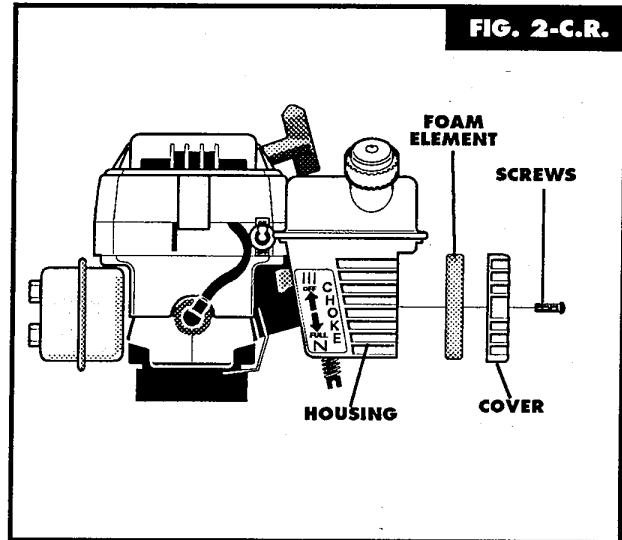

FIG. 2-C.R.
- The depth rod (**on the back of the tiller/cultivator**) serves a dual purpose (**See Fig. 2-OP**). It helps regulate the depth of the cut to a uniform level and also acts as a brake to help the operator control the speed of the tiller/cultivator. Also, with the wheels down, it is used for transporting the unit.
- Loosen screws on air cleaner cover (See Fig. 2-C.R.) and remove the cover.
- Reassemble the filter (See Fig. 2-C.R.). Place the cover on the air cleaner housing and tighten screws to secure cover to the housing.
- Check to make sure the tines are installed on correct side of the unit (See Fig. 2-SERV.&ADJ.).